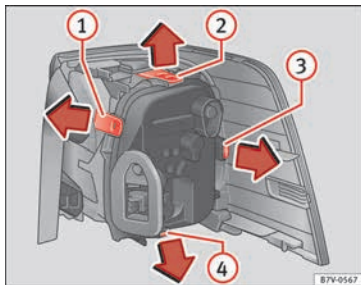

Fig. 115 Rear lights in the body: Remove the bulb holder. ① to ④: Attachment tab
8.	To release the bulb holder, press on the attachment tabs » Fig. 115 ① to ④ in the direction of the arrow.